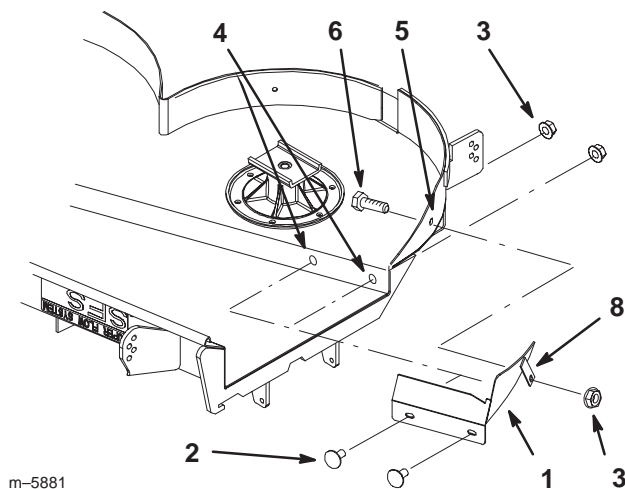

Figure 12
1. Place the rear tunnel baffle tight against the back wall of the discharge tunnel. (Fig. 12).
2. Align tab with existing hole in the side of the mower (Fig. 12).
4. Using the baffle as a template, mark the hole locations in the center of the slots. Do this at both holes in the baffle (Fig. 12).
5. Remove the baffle and drill two, 11/32 in. diameter, holes into the rear wall of the discharge tunnel (Fig. 12).
6. Install the rear baffle tab to the existing hole in mower. Use a bolt (5/16 x 3/4 in.) and flange nut (5/16 in.) (Fig. 12).
7. Install the rear tunnel baffle with 2 carriage bolts (5/16 x 5/8 in.) and 2 flange nuts (5/16 in.) (Fig. 12).